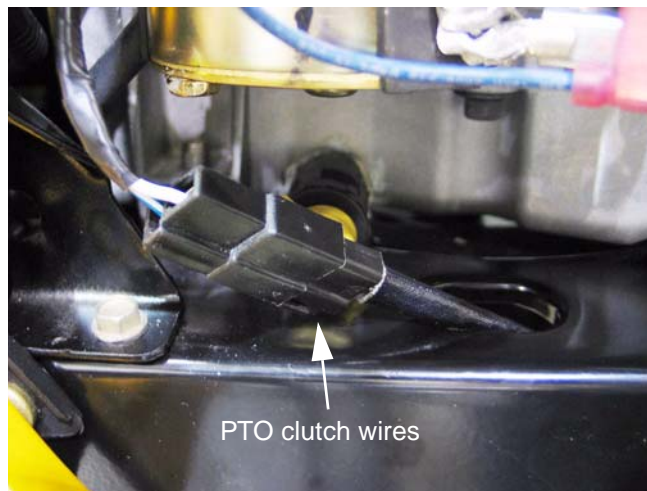

Figure 23.3
- 23.3. Identify and unplug the wires leading to the electric PTO clutch. See Figure 23.3.